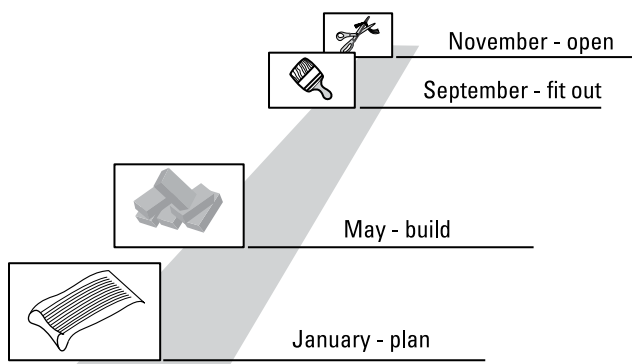

Figure 20-1: A simple Time Line.
- ❑ **Time Line:** A simple but useful diagram to show the main parts of the project without the technicality. It is a line stretching horizontally, or off into the distance, with markers or pictures showing key events such as design, build, test and implementation. This diagram can be really useful for communicating with business staff and other stakeholders who need to see the main parts of the project but don't need the detail shown on a complex Gantt Chart. See Figure 20-1 for a typical Time Line.